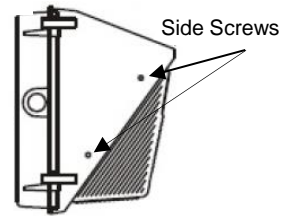

Figure 4
- Remove 2 screws on one side of front housing (set nuts aside). (See Fig. 4)
- Remove 2 screws from both sides of front housing (set nuts aside). (See Fig. 4)